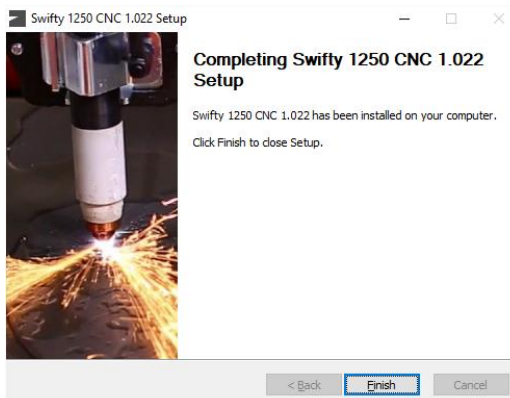

Fig 34 Swifty-CNC installation file icon
1. On the USB flash drive provided double click the Swifty-CNC install file (Fig 34). Click 'Yes' to any User Account Control dialogs.